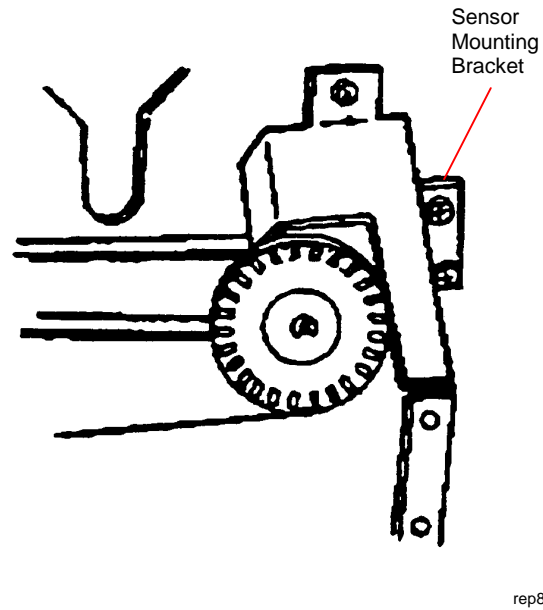

Figure 2. Removing the Bracket
4. (Figure 2): Remove the three screws and the Sensor Mounting Bracket.